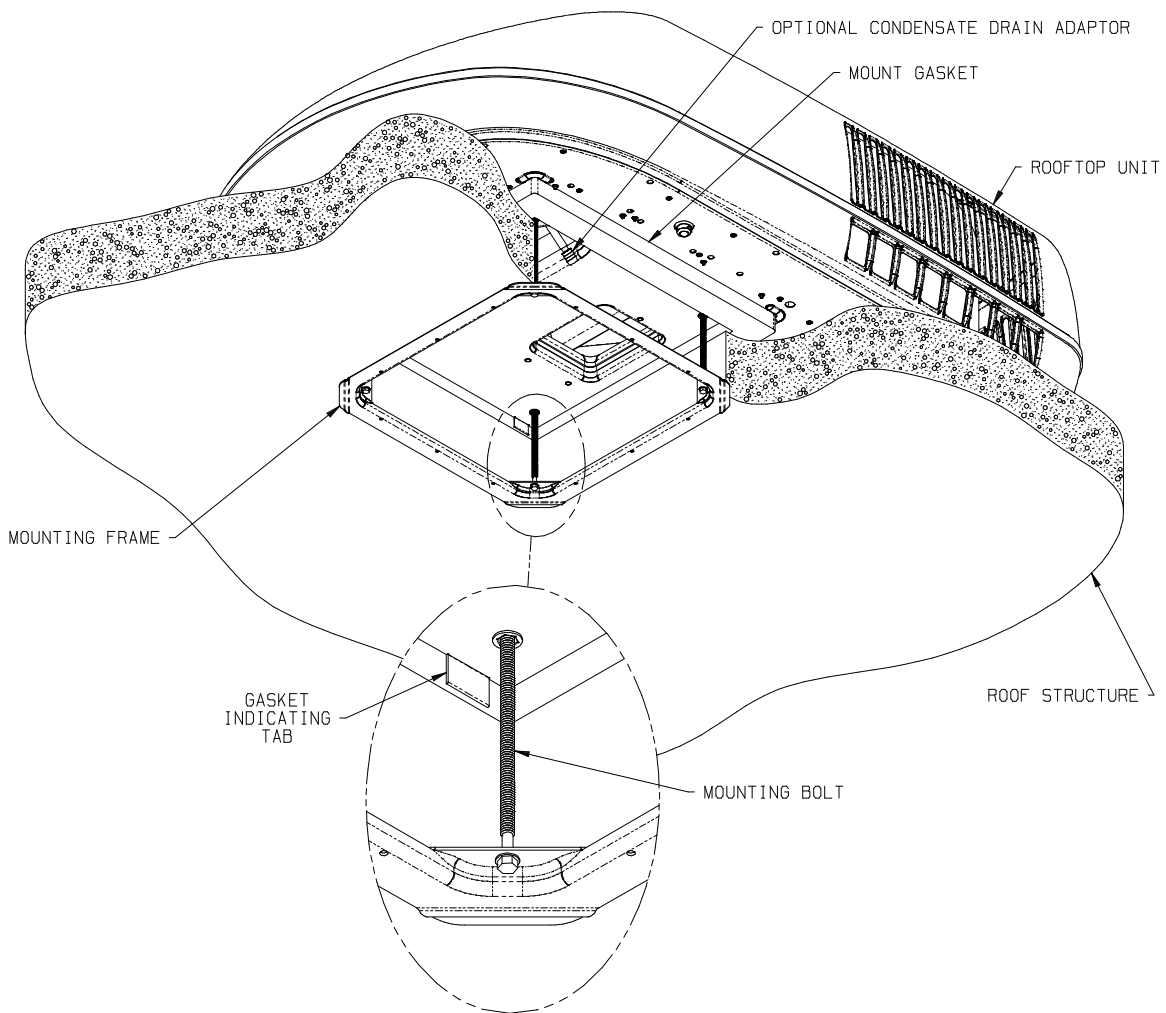

FIGURE 4
A mounting frame is supplied with the ceiling assembly. Follow the steps below to secure the air conditioner to the roof. Refer to Figure 4.
- C. Proper tension has been achieved for each bolt when any portion of each gasket indicating tab has been pulled down even with the roof (See Figure 4). The upper unit has now been properly installed with optimum gasket compression.
- D. If the air conditioner is equipped with an optional evaporator condensate pump, a 1/2" I.D. hose must be provided that runs from the 14" square opening, through the vehicle ceiling and down the side wall to allow water to drain under the vehicle. The hose must not be allowed to kink shut while making a bend. Connect the top end of the drain hose to the barbed fitting shown in Figure 4.